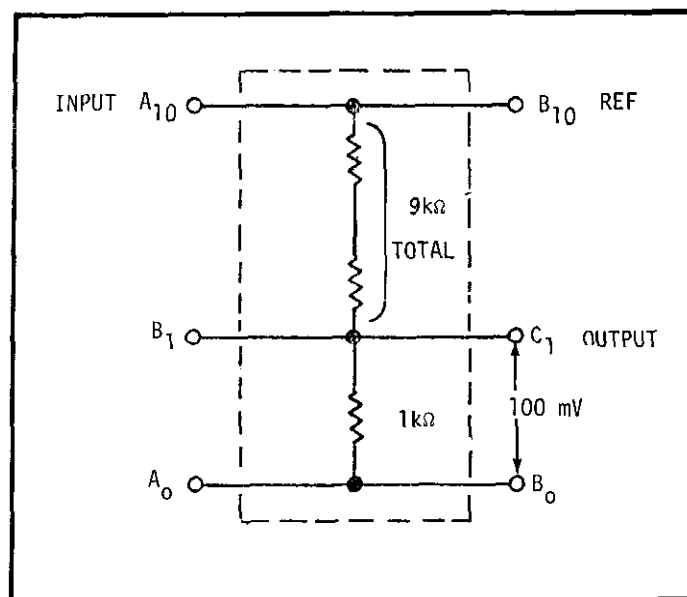

FIGURE 43. Voltage Divider Connections, 100mV Output.
Typical readings are -350 microvolts from null when input signal is near twice full range. The minus reading indicates that the positive gain of the analog amplifier is high and the negative gain is low. See Figure 43.
- a). Connect Voltage Divider for 1:10 division ratio as shown in Figure 43.